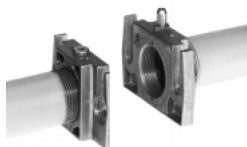

Fig. 3
1. Mount flange onto tube lines: use appropriate sealing agent (see Fig. 3);
2. insert MB-DLE: note position of O rings (see Fig. 3);